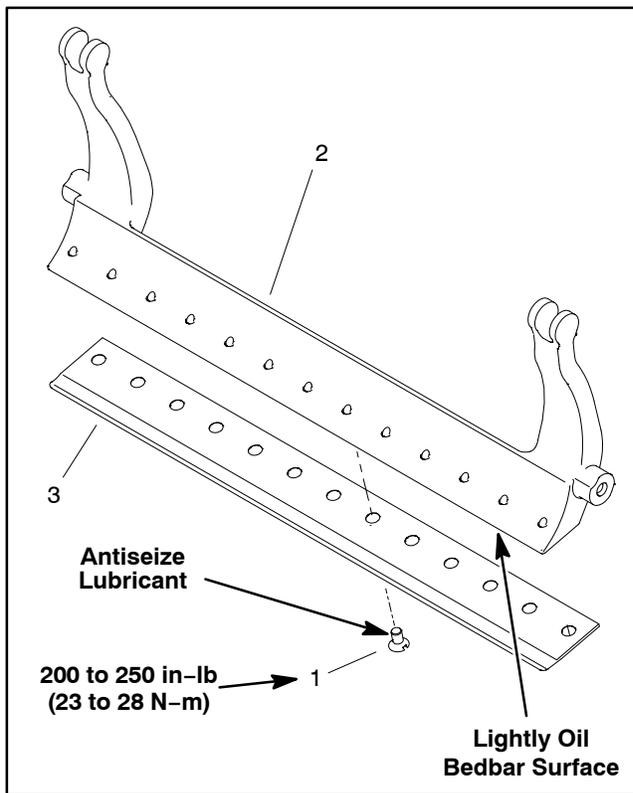

Figure 18
2. Remove screws from bedbar using a socket wrench and bedknife screw tool (see Special Tools in this chapter). Discard screws. Remove bedknife from the bedbar (Fig. 18).